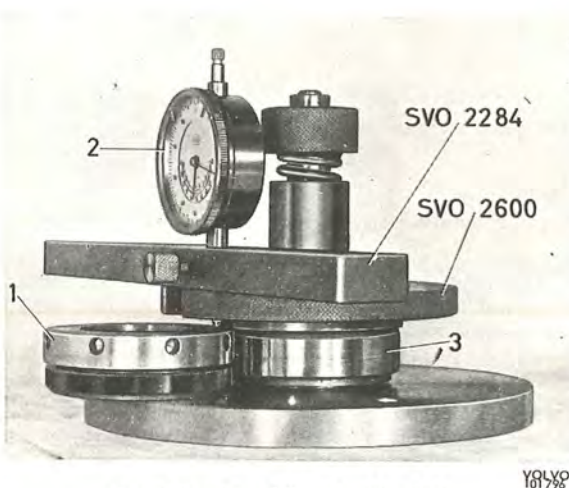
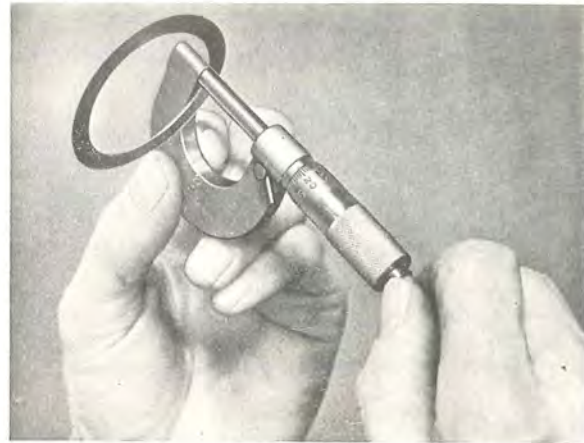

Fig. 4-89. Determining the shim thickness
Fig. 4-90. Measuring the shim
- Place the rear pinion bearing complete with the outer ring in measuring fixture SVO 2600. Put on the plate, spring and nut. Turn the nut with the flat side facing upwards. The plate, and thereby the bearing, is turned forwards and backwards several times so that the rollers take up the correct position. Place the adjusting ring in the measuring fixture as shown in Fig. 4-89. Use retainer SVO 2284 and dial indicator, place the measuring point of the indicator opposite the adjusting ring and zero-set the indicator. Then set the pointer of the indicator to the outer ring of the bearing. The dial indicator now shows directly the thickness the shims should have. Measure the shims for the correct thickness with a micrometer, see Fig. 4-90. N.B. It is almost impossible to obtain a shim with exactly the correct thickness. However, they must not be .03 mm (.0012") thicker than the measured value, but up to .08 mm (.0032") thinner.
Rotate the plate forwards and backwards several times. Put on the dial indicator and retainer SVO 2284. Zero-set the indicator to the adjusting ring and then place the measuring point facing the bearing, see Fig. 4-89. Read off the indicator. With a micrometer measure the shims, the total thickness of which corresponds to the read-off value + .07 mm (.003"). Place the shims together with the measured bearing to the one side. Repeat the above procedure with the other bearing.